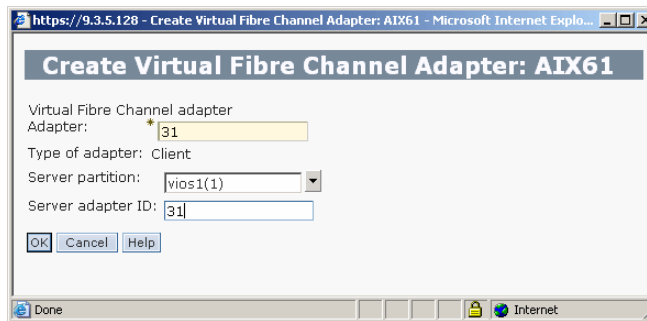

Figure 2-24 Define virtual adapter ID values
- c. Enter the virtual slot number for the Virtual Fibre Channel client adapter, select Virtual I/O Server partition to whom the adapter may be assigned to, and enter the Server adapter ID as shown in Figure 2-24. and click **OK**.